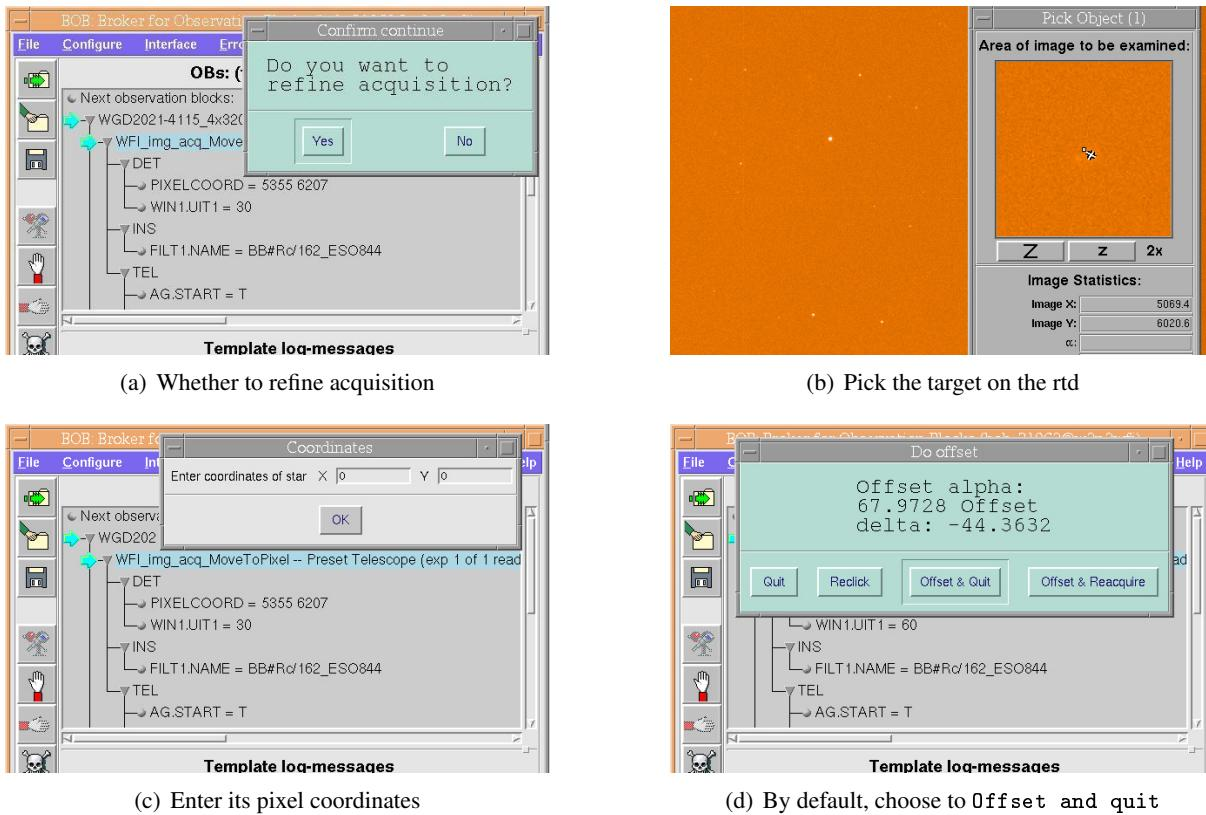

Figure 6.1: Refining the WFI acquisition for the `WFI_img_acq_MoveToPixel` template.
- B. Accept or decline refining by answering the pop-up Confirm continue (Fig. 6.1(a), p. 54)
- C. Pick target (Fig. 6.1(b), p. 54)
- D. Enter coordinates on pop-up Coordinates (Fig. 6.1(c), p. 54)
- F. Examine the offset proposition on pop-up Do_offset (Fig. 6.1(d), p. 54)
- G. Answer pop-up Do_offset (Fig. 6.1(d), p. 54)